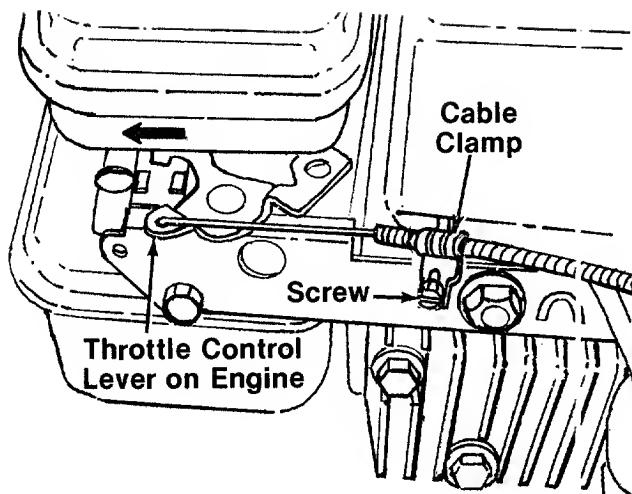

FIGURE 6.
8. Push the throttle control lever on the engine to the full open position (as far toward the outside of the unit as it will go) as shown in figure 6.
10. Remove the screw on the cable clamp shown in figure 6. Slip the control casing under the clamp. With the throttle lever on the engine still in the full open position, replace and tighten the screw to secure the throttle control cable.
1. Loosen, but do not remove, screw securing throttle control wire assembly at engine. See figure 6.